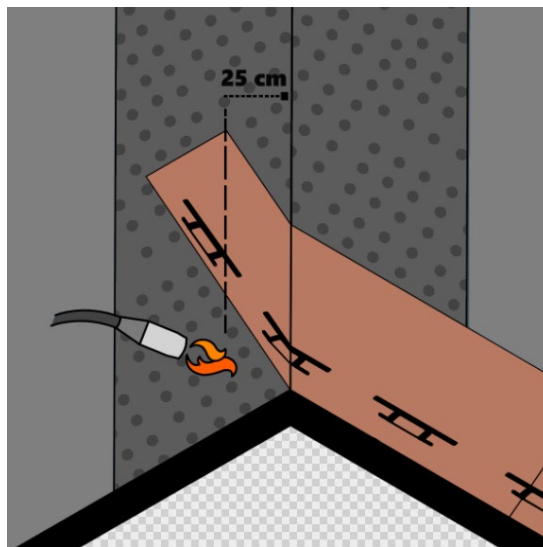

Fig. 20 - Shingles installation by torch at the valley
- As for the roof valleys, prepare a band of bituminous membrane about 100cm wide, applied by torch in advance, to ensure its waterproofing. Starting from a pitch, lay the bituminous shingles in rows, starting with the starting row shingles, so that the shingles pass at least 25 cm above the axis of the valley. Fix them by torch, always heating the membrane and do not torch directly the back of the shingle. Proceed at the same way with the first-row shingles. It is advisable to cut the shingles along the 25cm line parallel to the valley once the elements are installed - Fig. 20.